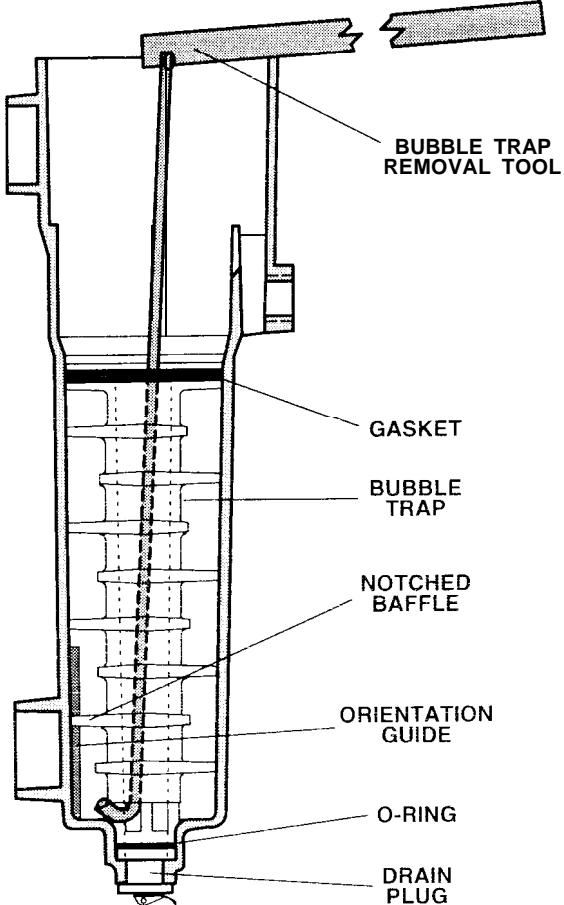

FIGURE 14
4. Use the removal tool as shown in Figure 14. With the handle of the tool toward the front of the turbidimeter body, hook the bottom of the bubble trap and pry down on the handle until the bubble trap is loose. Unhook the tool and lift the bubble trap from the body.